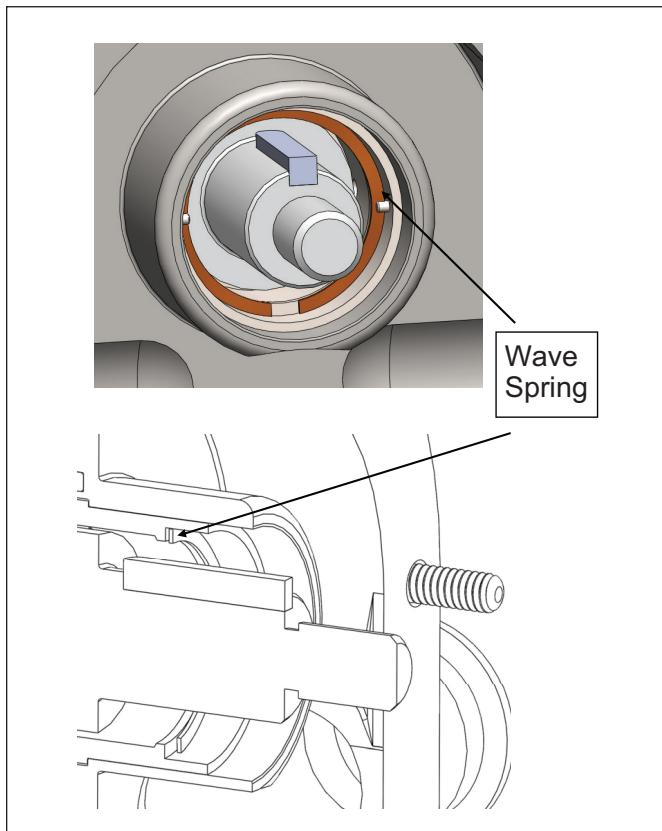

Figure 27. Inserting
1. Start by inserting the wave spring into the sleeve making sure that it sets below the stationary drive pins (*Figure 27*).